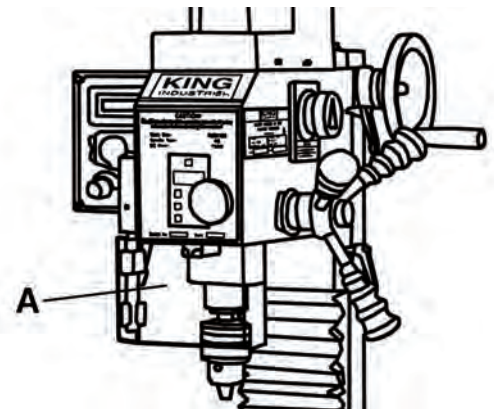

FIGURE 17
This milling/drilling machine comes with a transparent safety guard (A) Fig.17 mounted to the head. Never operate this machine without this safety guard in place. Do not modify this mechanism in any way.